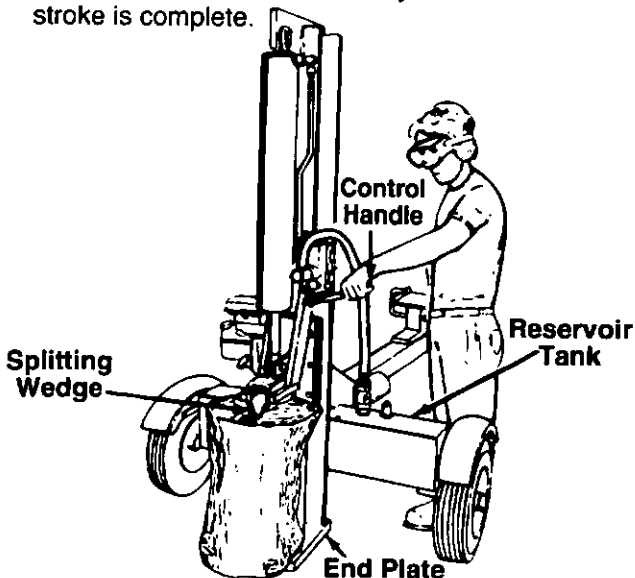

FIGURE 8.—Vertical Operation
Use the log splitter only on a level, hard surface. Never stand next to the splitting wedge when operating the log splitter. Always stand behind the reservoir tank. See figures 8 and 9. Never attempt to cut a log in half sideways. Always split the log lengthwise. Maximum length of log to be split is 24".
- **Step behind the reservoir tank** (see figures 8 or 9) and push the control handle in forward position until the log is split.